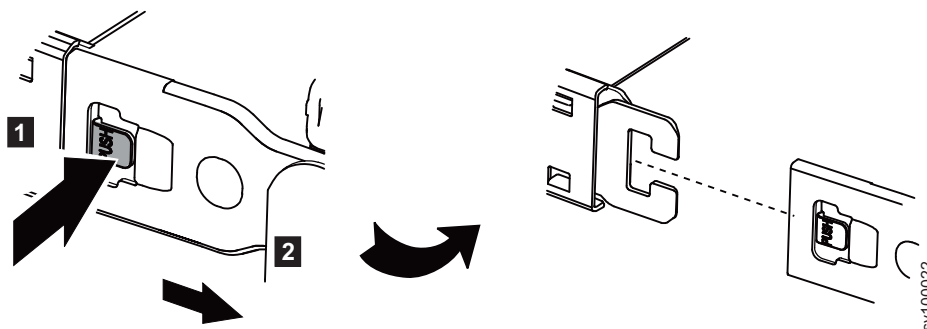

Figure 4. Releasing the outer member of the cable-management arm
3. Release the outer member, as shown in Figure 4.